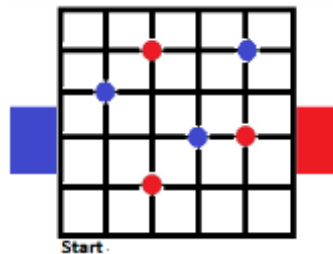

Figure 1
- There will be 2 colors RED and BLUE defining the objects and their respective drop-off zone figure 1.